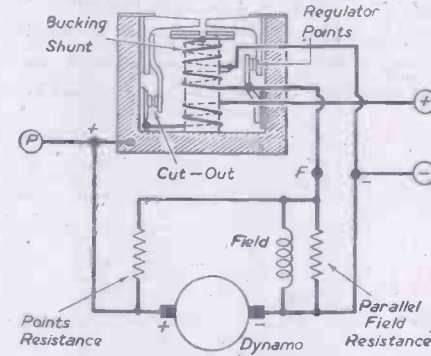
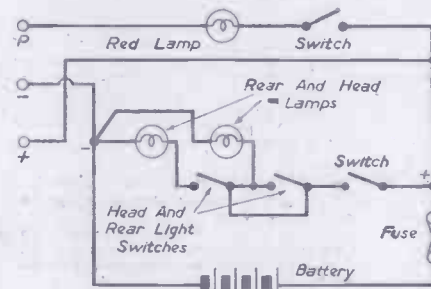

Fig. 1. Diagram of cut-out
Fig. 2. Lighting and charging circuit.—(J. B. Singleton.)
IN the accompanying diagrams Fig. 1 gives details of a cut-out attached to a small generator. Fig. 2 is a charging circuit I have arranged for lighting two lamps and for charging a 12-volt battery.
- (1) Is the circuit in Fig. 2 correct, especially from terminal P through the red lamp?
- (2) Would the lamps get full generator voltage if I removed the 12-volt battery?
- (3) When and how does the cut-out operate?
- (4) Would the regulation of the cut-out have to be altered to run the lights without the battery?—J. B. Singleton (Scunthorpe).